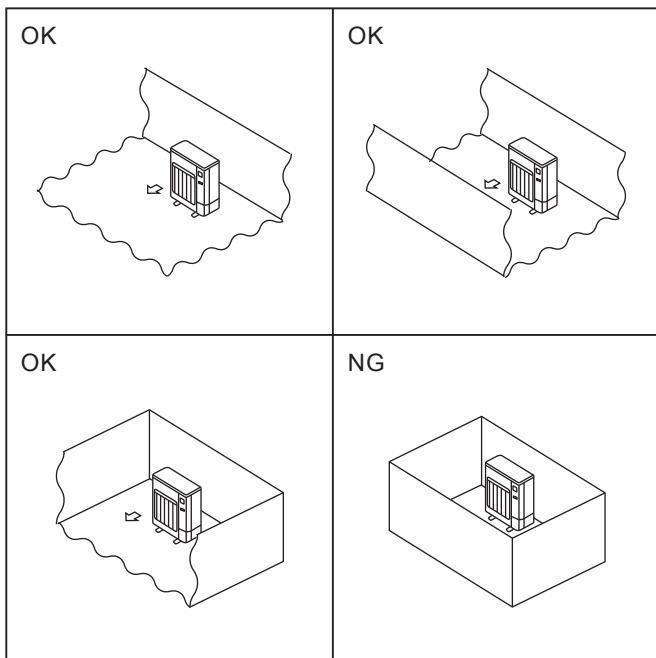

Fig. 2-2
- ◎ Install outdoor units in a place where at least one of the four sides is open, and in a sufficiently large space without depressions. (Fig. 2-2)